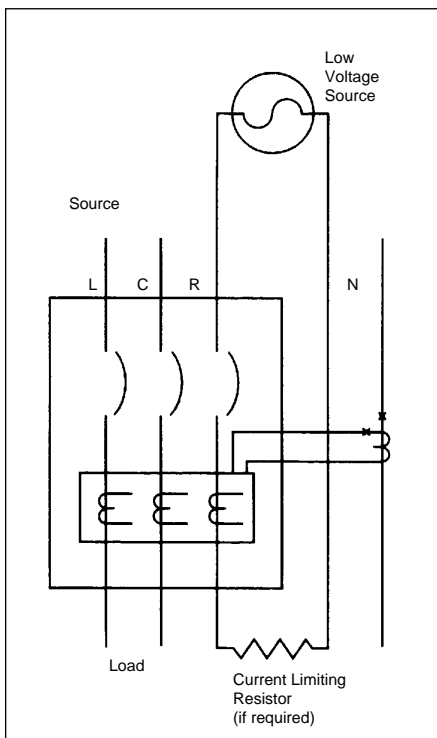

Figure 7-1a Connections for Ground Fault Trip Test
7.3.4 Using a low voltage (0-24V), high current, AC source, apply a test current of 125% of the ground fault pick-up setting through one phase of the circuit breaker, as shown in Figure 7-1a. This should cause the breaker to trip in less than 1 second, and if an alarm indicator is supplied, it should operate. Reset the breaker and the alarm indicator. Repeat the test on the other two phases.